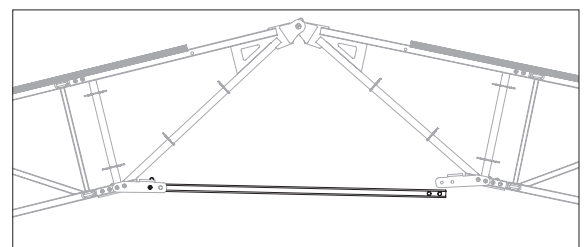

Fig. A4.02b
4. Fit another bolt and cotter pin on the hinged side. (Fig. A4.02b + A4.02c)